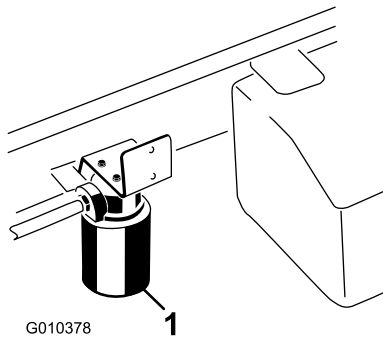

Figure 64
5. Place a drain pan under the filter and remove the filter (Figure 64).